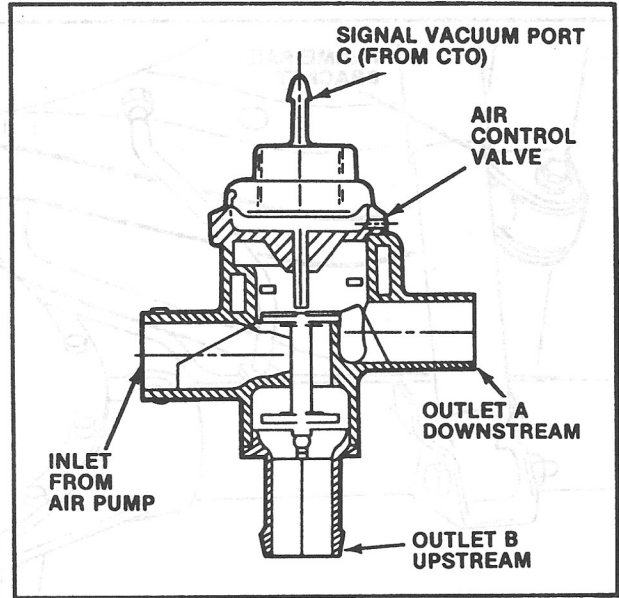

Fig. 2— Air Control Valve
When engine temperature is below 125°F, the CTO switch allows manifold vacuum to reach port (C) of the air control valve (Fig. 2).
Air from the air pump then flows downstream to the converter through outlet (A) of the air control valve (Fig. 2).